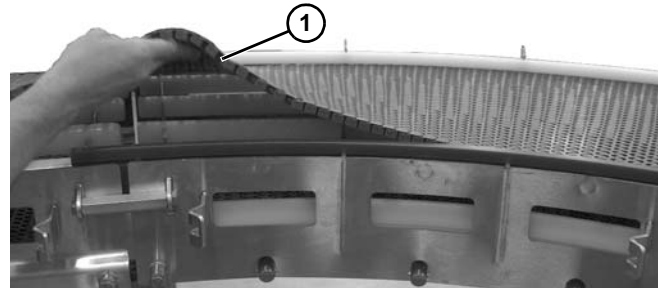

Figure 16
- 8. For Modular Belt Curve conveyor - disengage chain (**Figure 16, item 1**) from curve module.